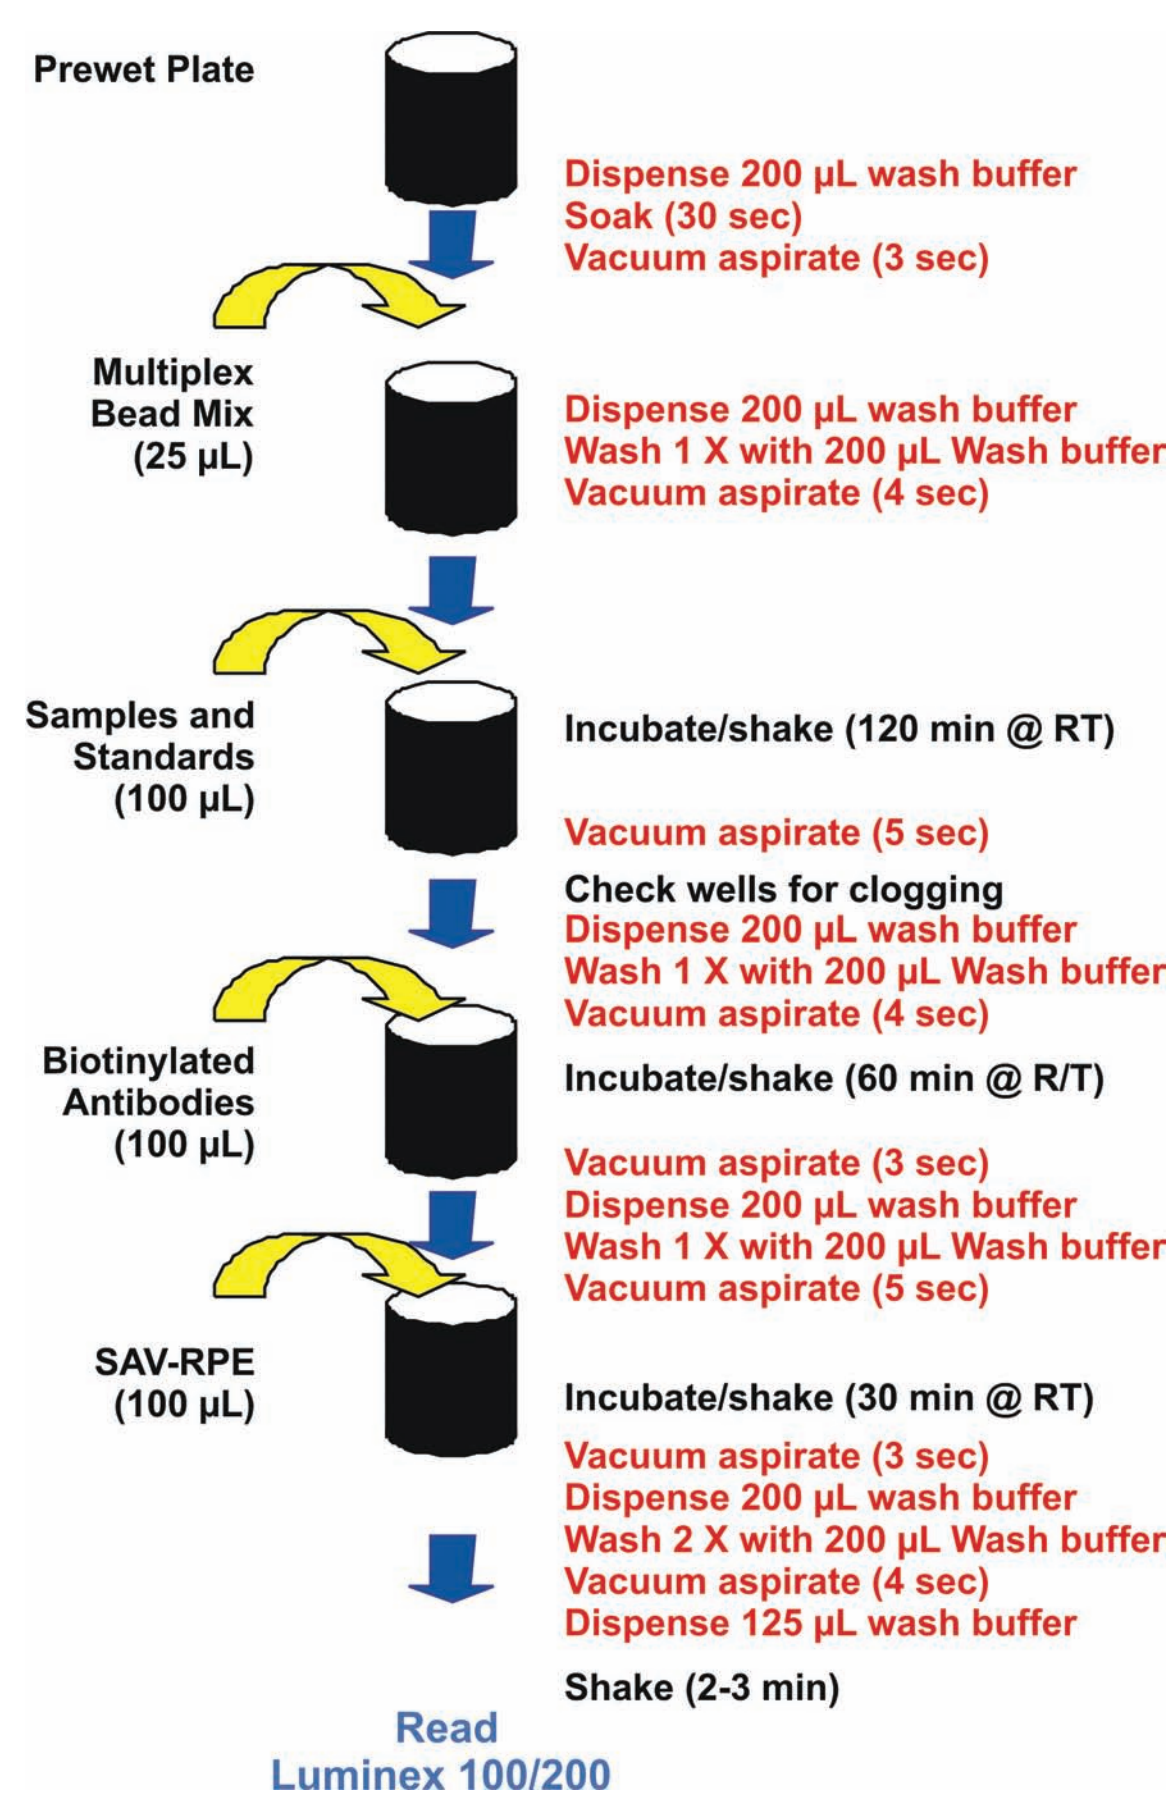

Figure 1 – Invitrogen Human Cytokine Assay vacuum wash protocol.
The filter plate was pre-wet using a one-cycle wash with a 30 second soak prior to aspiration. After wetting, 25 µL of the assay kit bead mix was added, and the beads were washed one time using assay wash buffer. Working multiplex standards were generated by serial dilution of the reconstituted human cytokine standard. These standards contained 10 different analytes. After reconstitution, 100 µL each of standards and samples were pipetted into bead containing wells of the assay microplate. The reaction was allowed to incubate for 120 minutes at room temperature (RT) with agitation on a plate shaker. After incubation, the plate was vacuum aspirated, and then manually checked for incomplete aspiration, commonly caused by clogged wells in the filtration plate, followed by two dispense and vacuum aspirations. After washing, 100 µL of detection or secondary antibody reagent was added and allowed to incubate for 60 minutes at RT with agitation. The beads were again washed three times followed by the addition of 100 µL of SAPE reagent. After a 30-minute incubation with agitation to allow for reporter tag binding to occur, the plate was again washed as described in the washing instructions. The samples and standards were then resuspended in 125 µL of assay buffer. Samples were then read on a Luminex 100 Reader with xPONENT® 3.1 Software using the parameters outlined in the assay kit instructions (Figure 1).